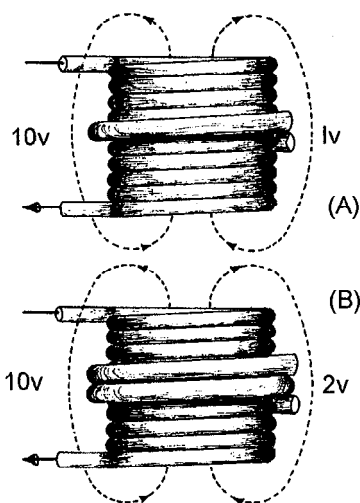

Figure 5-10.—Transformer turns and voltage ratios.
The total voltage induced into the secondary winding of a transformer is determined mainly by the **RATIO** of the number of turns in the primary to the number of turns in the secondary, and by the amount of voltage applied to the primary. Refer to figure 5-10. Part (A) of the figure shows a transformer whose primary consists of ten turns of wire and whose secondary consists of a single turn of wire. You know that as lines of flux generated by the primary expand and collapse, they cut **BOTH** the ten turns of the primary and the single turn of the secondary. Since the length of the wire in the secondary is approximately the same as the length of the wire in each turn in the primary, **EMF INDUCED INTO THE SECONDARY WILL BE THE SAME AS THE EMF INDUCED INTO EACH TURN IN THE PRIMARY**. This means that if the voltage applied to the primary winding is 10 volts, the counter emf in the primary is almost 10 volts. Thus, each turn in the primary will have an induced counter emf of approximately one-tenth of the total applied voltage, or one volt. Since the same flux lines cut the turns in both the secondary and the primary, each turn will have an emf of one volt induced into it. The transformer in part (A) of figure 5-10 has only one turn in the secondary, thus, the emf across the secondary is one volt.
The transformer represented in part (B) of figure 5-10 has a ten-turn primary and a two-turn secondary. Since the flux induces one volt per turn, the total voltage across the secondary is two volts. Notice that the volts per turn are the same for both primary and secondary windings. Since the counter emf in the primary is equal (or almost) to the applied voltage, a proportion may be set up to express the value of the voltage induced in terms of the voltage applied to the primary and the number of turns in each winding. This proportion also shows the relationship between the number of turns in each winding and the voltage across each winding. This proportion is expressed by the equation: